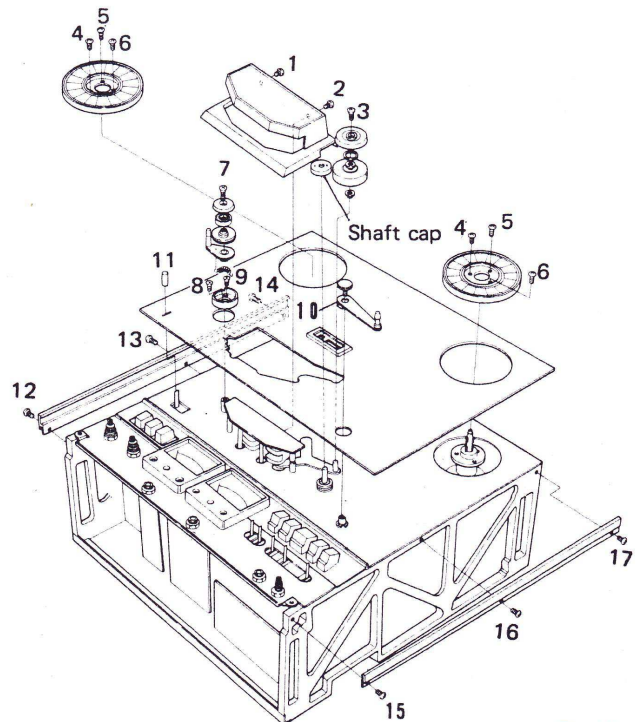

Fig. 17
4.4 MECHANICAL PANEL (Fig. 17)